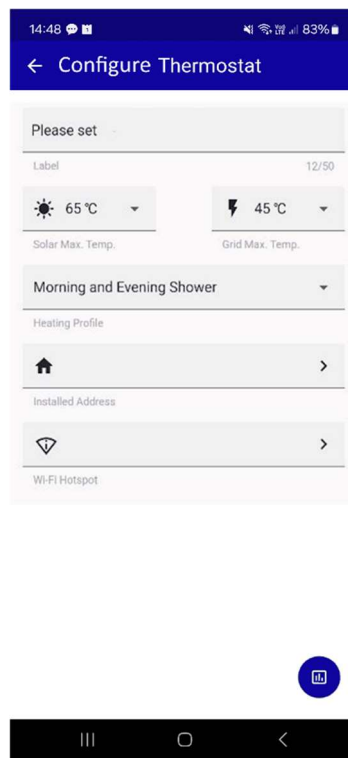

Figure A2 Configure screen
5. The application should display the "Configure Thermostat" screen (**Figure A2**)